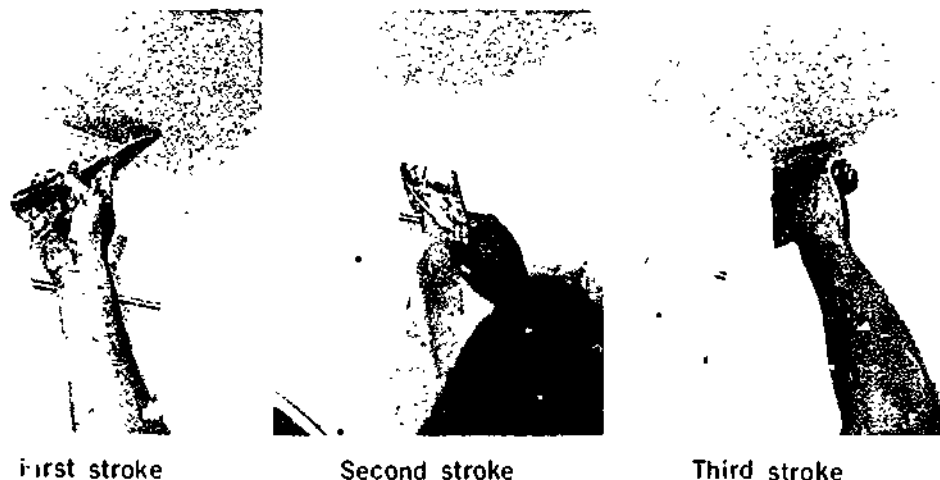

Figure 4-38
1. Stroke the knife left along the ceiling from the centre of the threeway, the first stroke in Figure 4-38. Both ceiling tapes will be wiped because the blade passes across the tape on the right and parallel with the tape on the left.
2. Stroke from the centre down the left wall, wiping the two tapes on that wall, the second stroke in Figure 4-38.
3. Stroke across the right wall to finish the threeway, the third stroke in Figure 4-38.